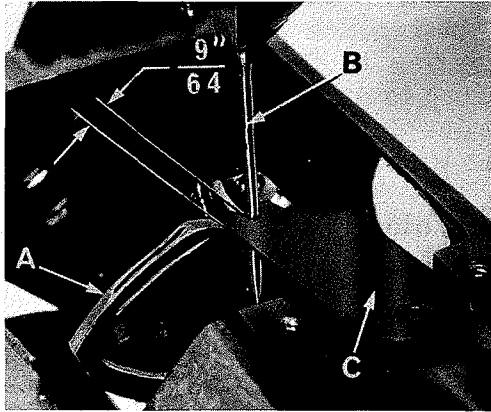
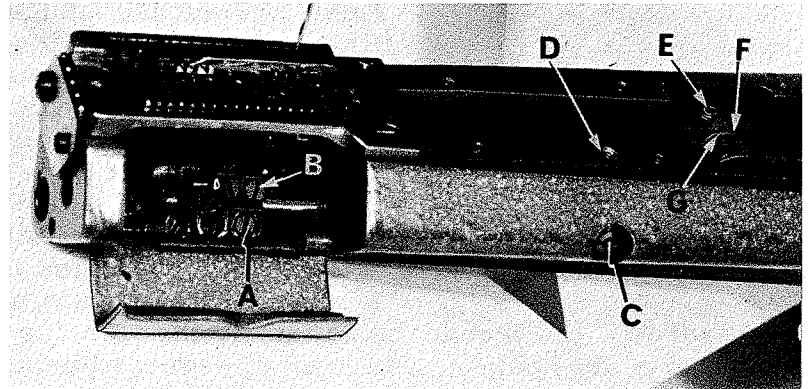
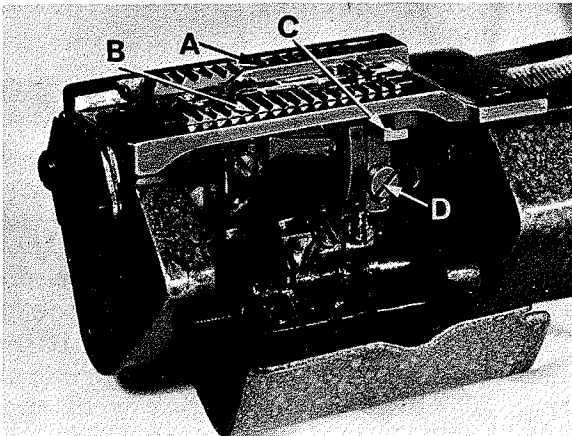

Fig. 5
Fig. 6
Fig. 7
Insert a new set of needles, type and size specified. Always adjust the looper (A, Fig. 5) for the left needle first. Set the looper so that the distance from the center of the needle (B) to the point of the looper (A) is $9/64$ inch, when the looper is at its farthest position to the left. Looper gauge (C) No. 21225- $9/64$ can be used advantageously in making this adjustment. If adjustment is required, loosen screw (A, Fig. 6) in looper holder, permitting movement in either direction to obtain the $9/64$ inch dimension as shown in Fig. 5. Retighten screw (A). Rotate handwheel in operating direction to assure that the looper point passes to the rear of the needle as close as possible without contacting, and the descending needle barely brushes the back of the looper. This adjustment can be made by loosening screw (B, Fig. 6) very slightly, so the looper can be moved in the holder, but rigid enough to retain its position while rotating machine through its cycle to attain the required movement, retighten screw. Always check the $9/64$ inch looper gauge setting after setting the looper to the back of the needle, and conversely, always check the setting of the looper to the back of the needle after setting the $9/64$ inch looper gauge.
Before assembling the main and differential feed dogs, set the feed bar eccentric pin (C, Fig. 6) located in the left side near center of cylinder, so that the slot in the head is in a horizontal position. This assures a neutral position of eccentricity for the purpose of raising or lowering the height of the main and differential feed bars simultaneously. The feed bar pin is retained in position by set screw (D). Assemble the differential feed dog (A, Fig. 7), main feed dog (B) and throat plate. Both the main and differential feed dogs can be individually adjusted to height due to having elongated slots for their attaching screws. The main feed dog at its highest position, should be set to project above the throat plate, slightly more than the depth of its teeth. The differential feed dog may then be leveled with the main feed dog. Tighten the attaching screws securely.
Should the main feed dog require repositioning due to contact with the throat plate in its forward or rearward travel, loosen set screw (E; Fig. 6) in main feed bar driving link (F) rotate main feed bar eccentric driving stud (G) as required. Driving stud (G) has a thin hexagon head with cut-outs on two of the flats allowing movement by tapping with a sharp pointed tool when a thin open end wrench is not available. Whenever the main feed bar eccentric driving stud position has been changed, re-check rear needle guard setting, adjustment may be required. Retighten set screw (E). Position main feed dog support (C, Fig. 7) flush against bottom of main feed dog (B), tighten support screw (D) securely.